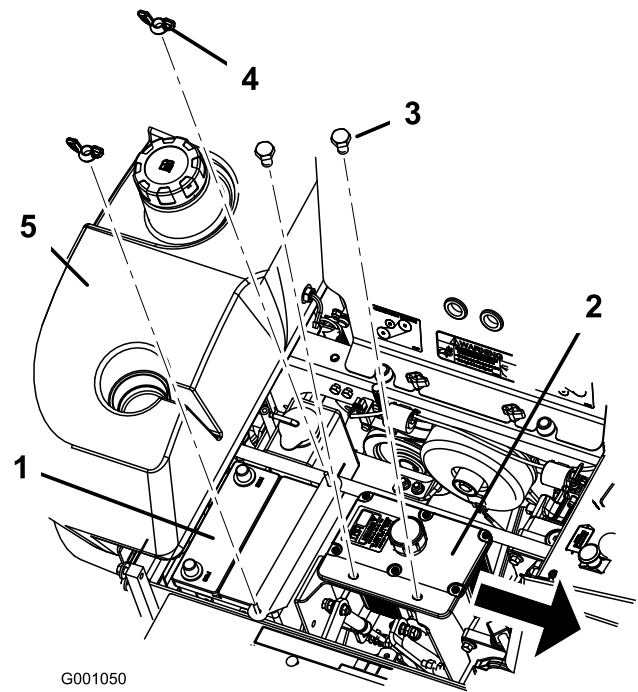

Figure 49
6. Secure battery with J-bolts, hold down clamp and 2 washers (1/4 inch), and 2 wing nuts (1/4 inch) (Figure 49).
6. Remove both wing nuts (1/4 inch) securing the battery clamp (Figure 49).
7. Remove the two bolts holding the hydraulic tank in place (Figure 49).